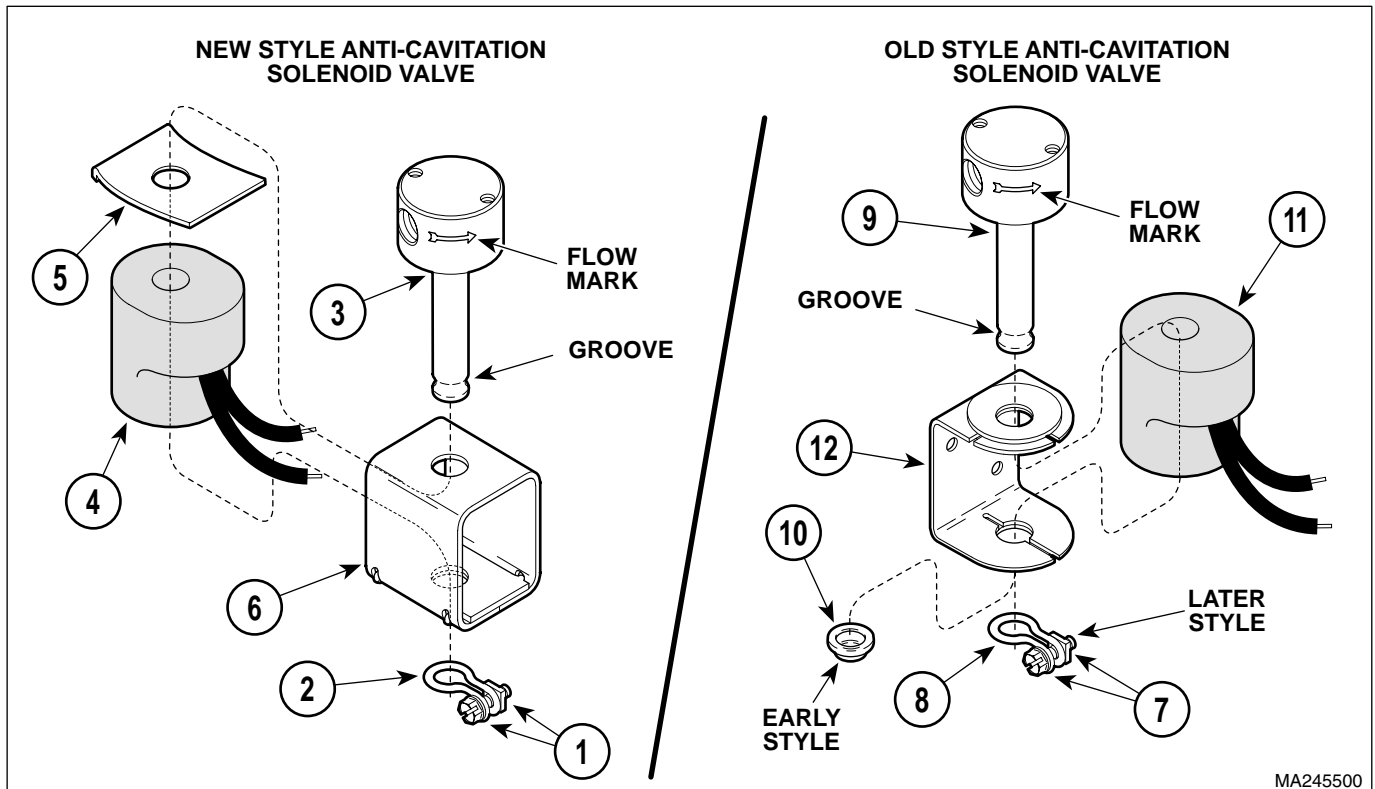

Figure 4-44. Old Style Ant-Cavitation Solenoid Valve Rebuild
- (1) Loosen screw (1, Figure 4-44) and remove wire clip (2) from groove of solenoid valve (3).
- (2) Remove solenoid valve (3), coil (4), and spring tab (5) from bracket (6).
- (1) Loosen screw (7, Figure 4-44) and remove wire clip (8) from groove of solenoid valve (9) **or** remove locking cap (10) from groove of solenoid valve (9).
- (1) Install new coil (4, Figure 4-44) and solenoid valve (3) on bracket (12).
- (2) Install wire clip (2) on groove of solenoid valve (3) and secure by tightening screw (1).